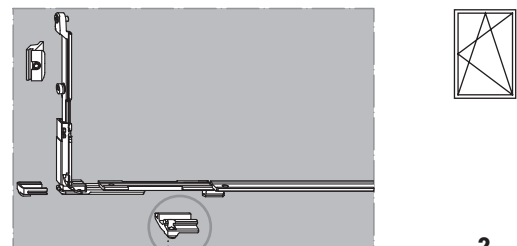

Fig. 5
- B** Tighten the cheese head screw on the guiding piece to prevent shifting (fig. 5).
Braking reaction Adjust by screwing in or unscrewing the cheese head screw on the guiding piece (fig. 5).
Position RH/LH sash lift run-up block (2/3) on the tilt lock as shown and fix with grub screw (torque 1.5 - 0.25 Nm, 2.5 mm AF) (Figs. 5 and 6).